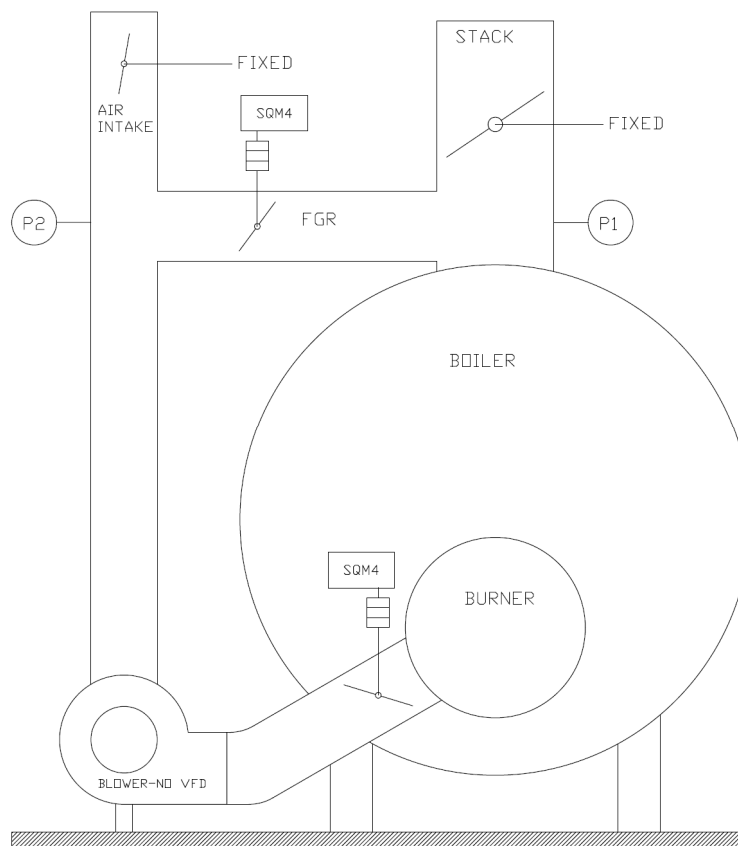

Figure 6-12: FGR Burner with no VFD and an Air Damper on the Blower Outlet
Method shown in Figure 6-12:
Small pressure changes (pressure inside a boiler room vs the pressure in the stack) are common. These are typically due to doors being opened and closed in the boiler room and convective effects in the stack. Depending on the installation, these changes might be non-existent or they might be as large as 2" WC. With the arrangement shown in Figure 6-12, even small pressure changes can cause the FGR flow to be non-repeatable. A few examples are given below:
2. Differential pressure across the FGR damper is significant even at low fire due to the vacuum provided by the blower. Small changes in the differential pressure across the FGR damper will cause small changes in FGR flow. FGR flow will be more repeatable as compared to the method in Figure 6-12, especially at low to mid fire.